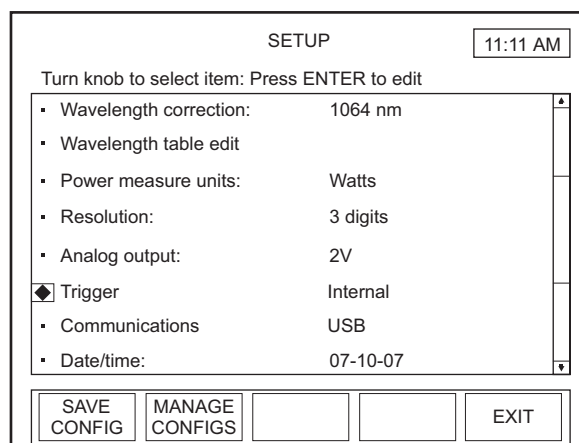

Figure 62. SETUP: Trigger
1. On the main SETUP screen, turn the Selection knob to move the diamond indicator to Trigger (Figure 62).